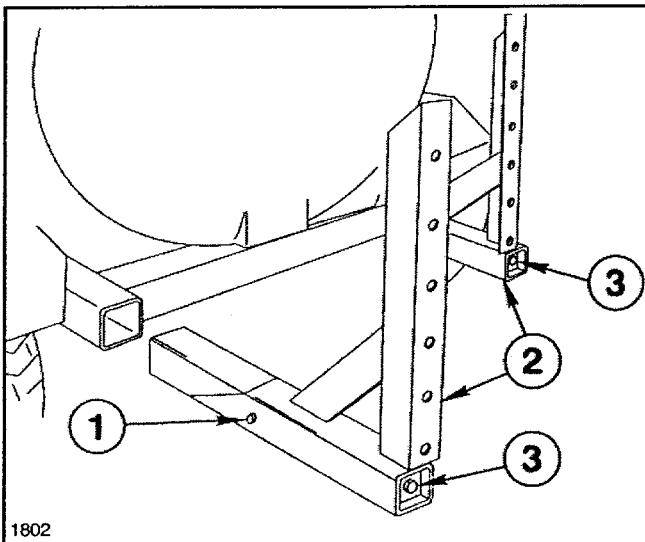

FIG. 1
2. Remove Stop Pins in Boom Mount Assemblies. Apply a heavy coating of grease to the tubes of the two Boom Mount Assemblies and insert them into the Vehicle Frame until Angled Gusset bottoms out against Vehicle Frame. (See FIG. 1)